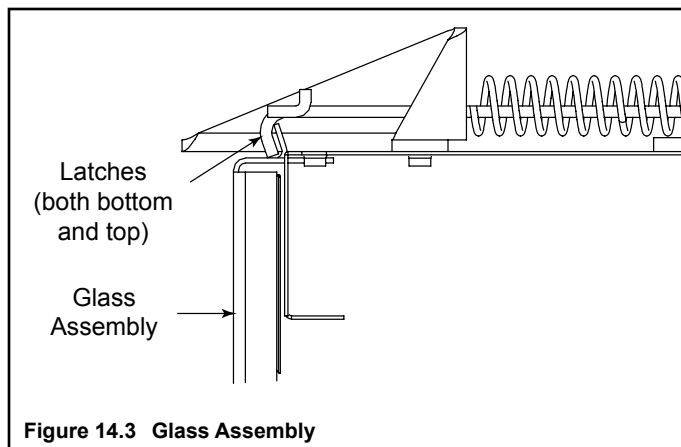

Figure 14.3 Glass Assembly
- Pull the four glass assembly latches out of the groove on the glass frame. See Figure 14.3